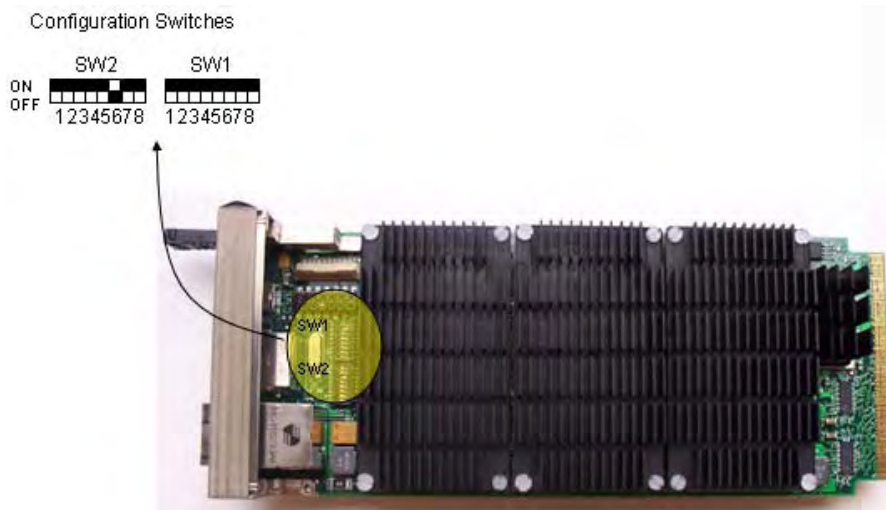

Figure 1. Default Switch Settings
1. The MSC8156 AMC board has two dual in line package (DIP) switches. The default DIP switch positions can provide set up values for the board. Check the default positions and verify the board is operational before changing the switches. The settings for the switches are shown with their default positions in Figure 1, and are described in Table 2.